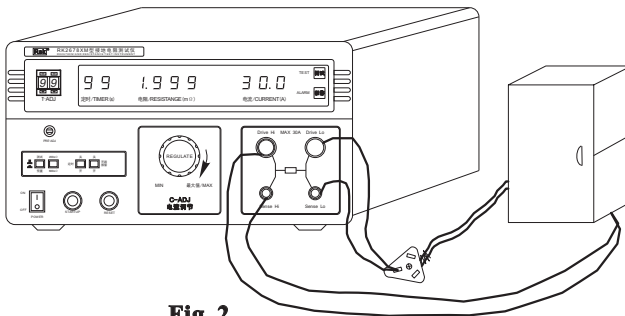

Fig. 2
- (1) Common test: connect wires as shown in Fig. 2, put one test clamp at general earthing end and another clamp at the tester's metallic part that can be touched.